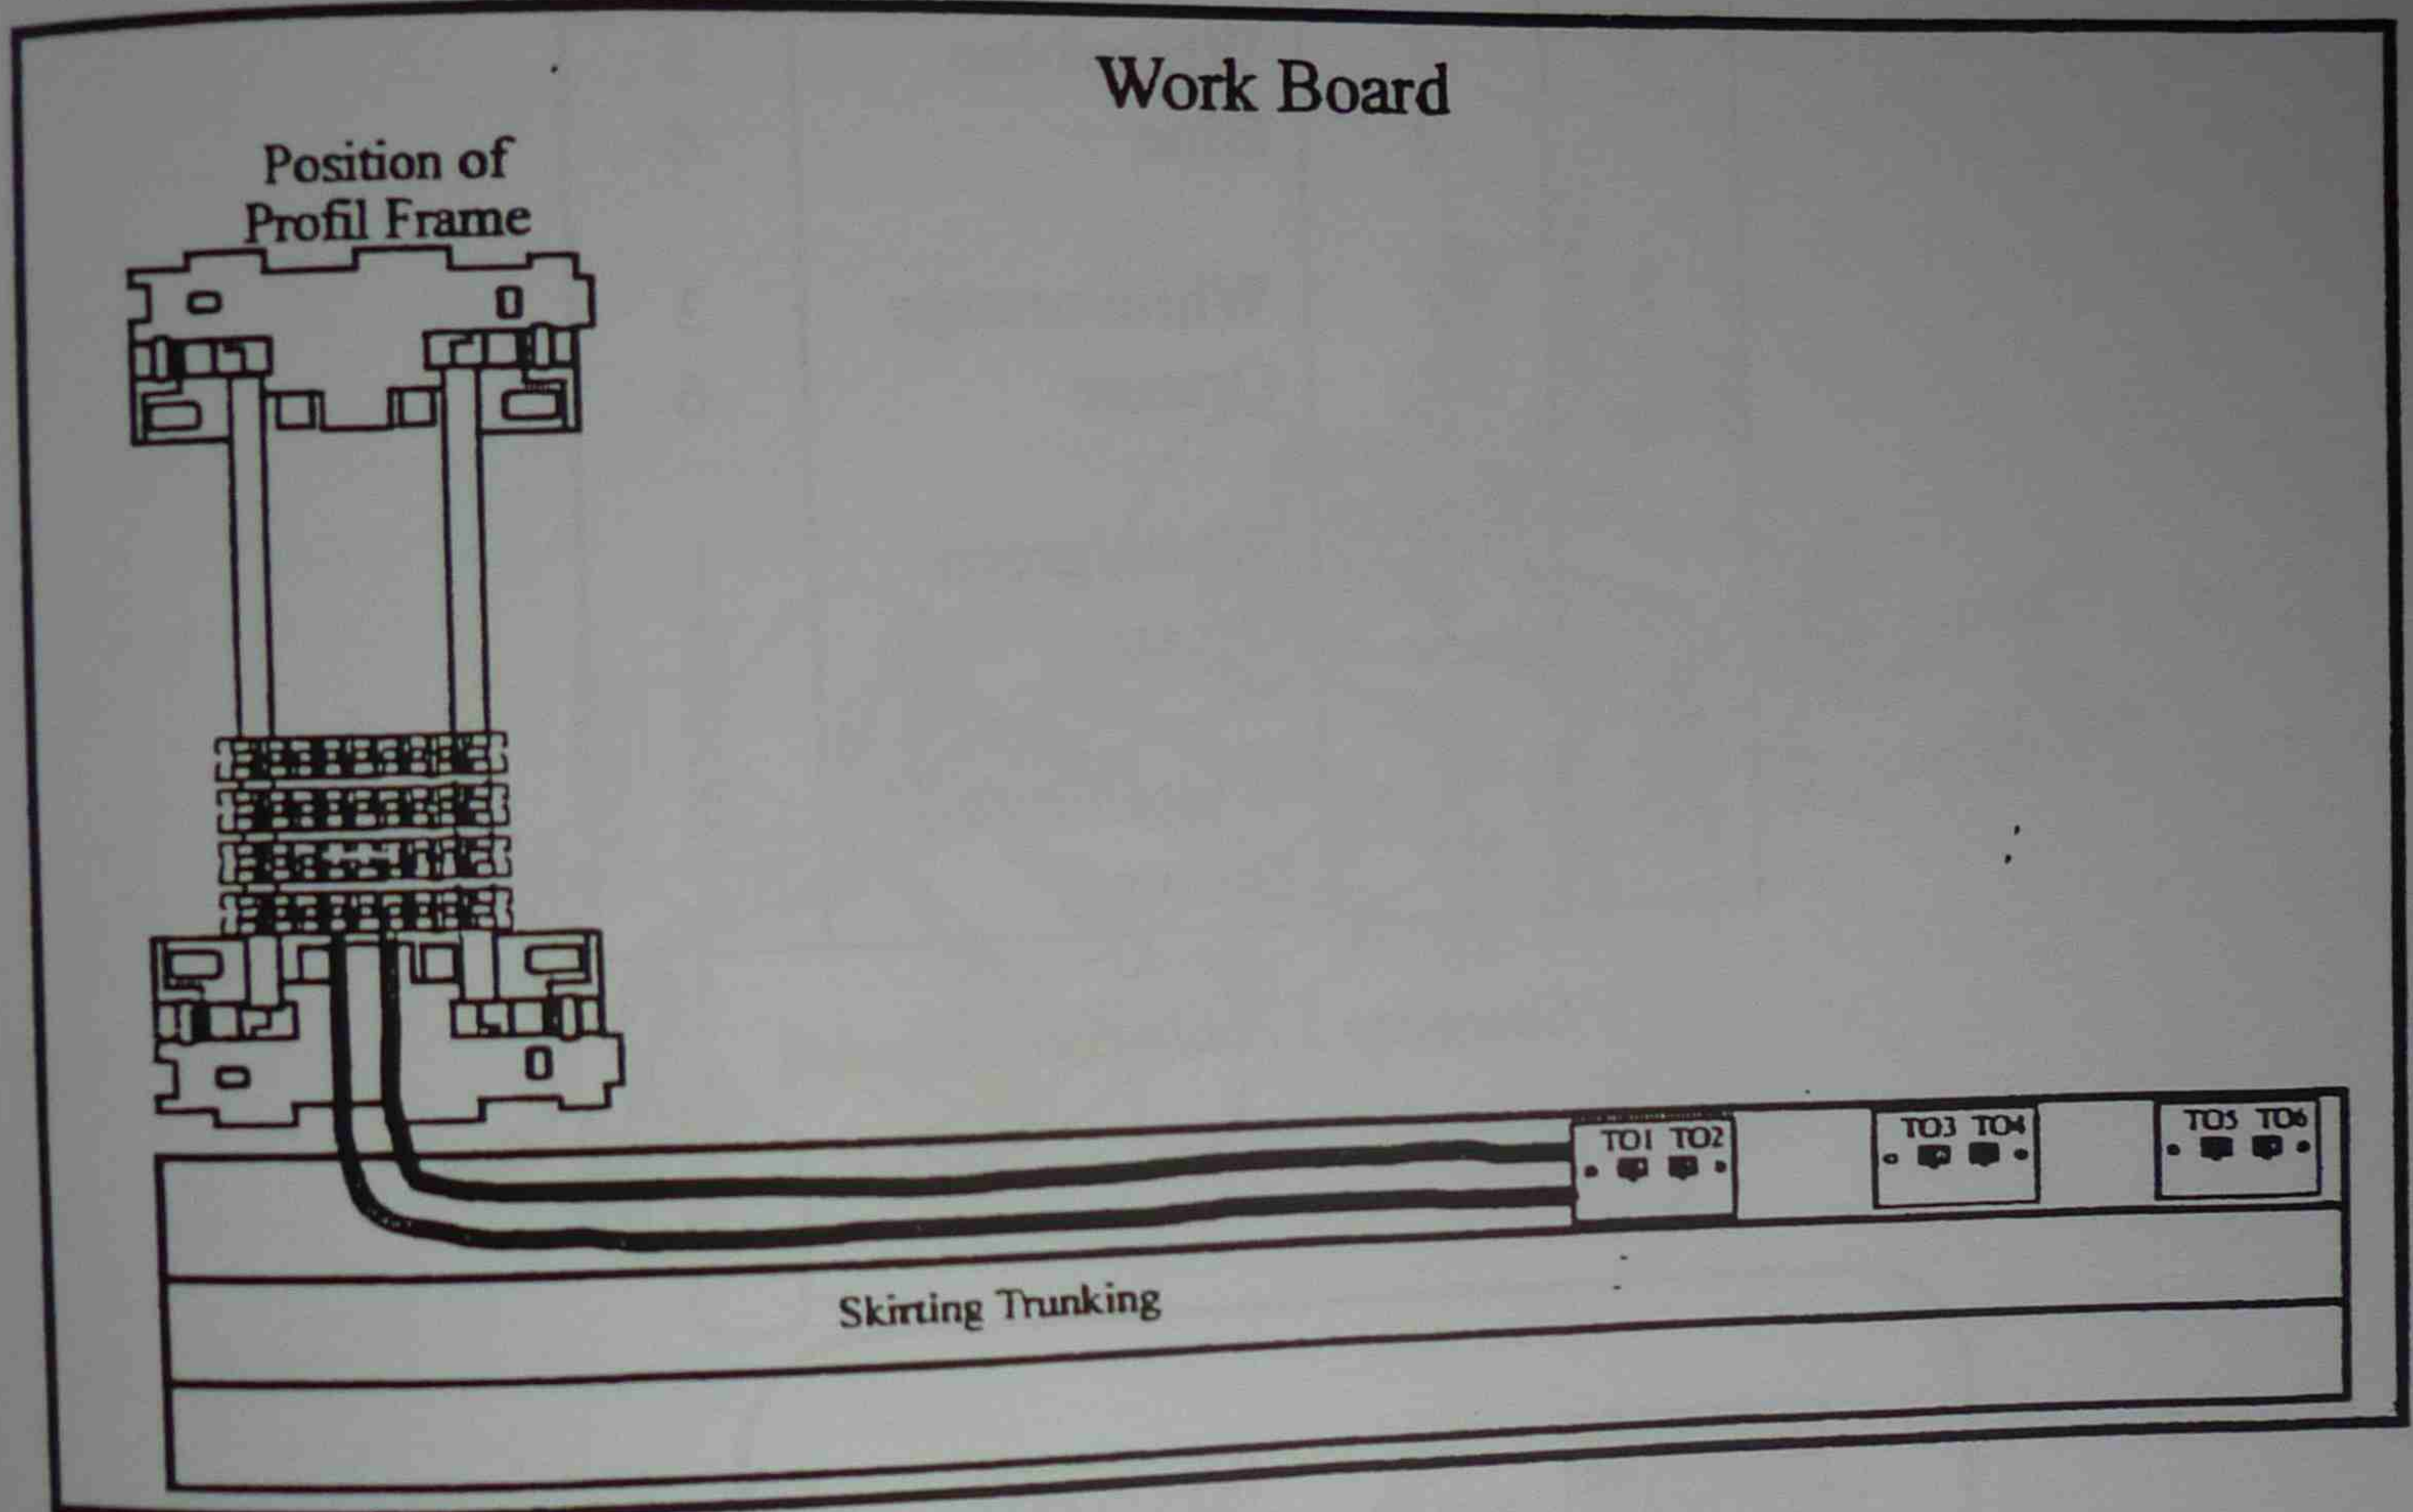

Figure 46 Setting out the work board
1. Secure the skirting trunking to the work board using Figure 46 as a guide.
2. Fix an 11 way Profil frame onto the left side of the work board using the necessary tools and hardware. Use Figure 46 as a guide for positioning the frame.
5. Install two 4 pair Category 5 cables between each telecommunication outlet position and the Profil frame. Use Figure 46 as a guide.